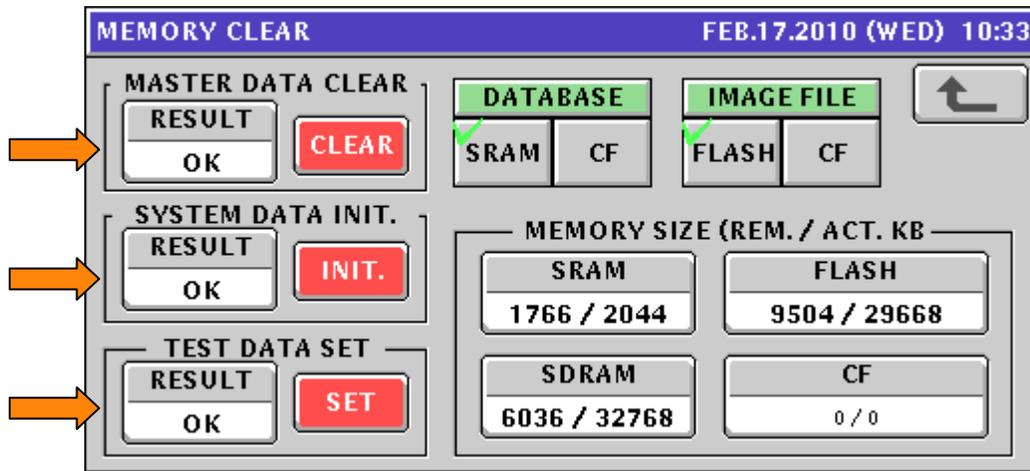

Figure 3.1. Memory Clear
6. Perform three standard clears: Master Data Clear, System Data Initialize, and Test Data Set following the steps below. See Figure 3.1.